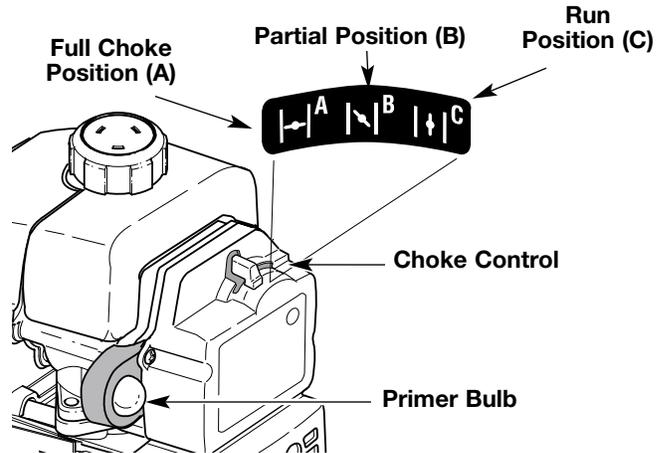

Figure 8
3. Fully press and release primer bulb slowly 5 to 7 times. Fuel should be visible in the bulb. If fuel is not visible, press three (3) more times, or until it is. See Figure 8.
4. Place the choke lever in the FULL choke position (A |←|). See Figure 8.
6. Place the choke lever in the PARTIAL choke position (B |↘|). See Figure 8.
9. Squeeze the throttle control to warm up engine for 5 to 10 seconds. Place the choke lever in the RUN position (C |→|). See Figure 8.
2. Put the On/Off Stop Control in the STOP (O) position. See Figure 8.